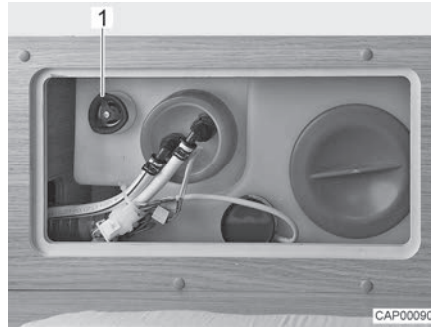

Fig. 110 Water tank with rotary handle
- Turn the rotary handle (Fig. 110,1) on the water tank in an anticlockwise direction as far as possible beyond the resistance to fully open the drainage opening.